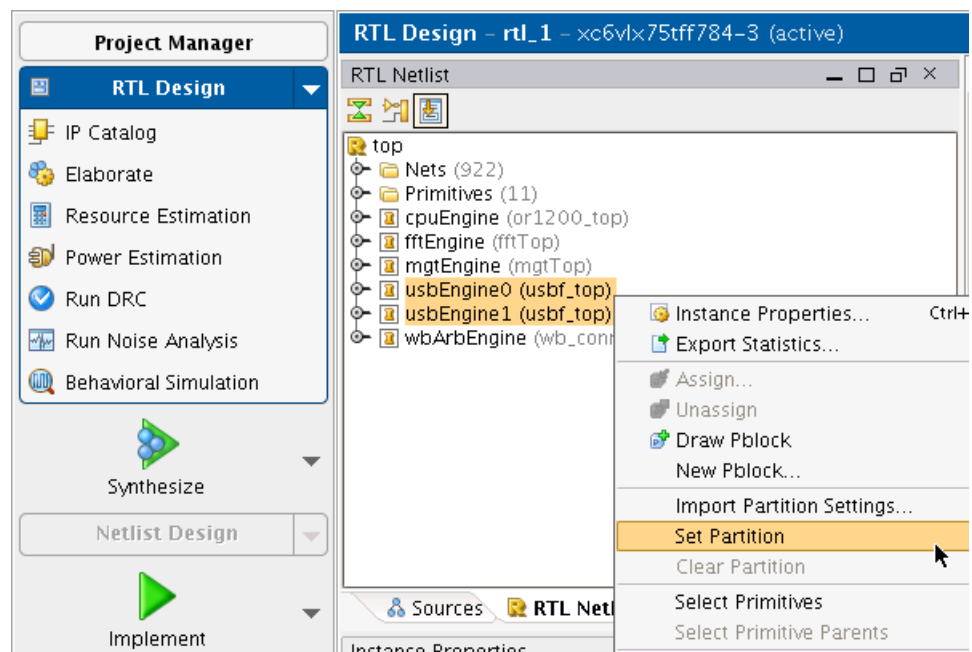

Figure 1-2: Setting Partitions on `usbEngine` Instances
2. Right-click and select **Set Partition** (Figure 1-2).